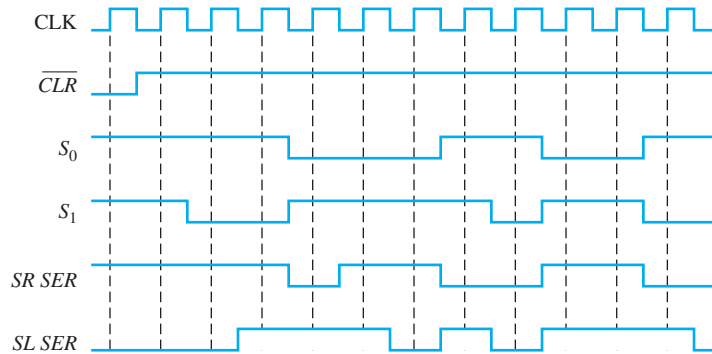

FIGURE 8-59
24. Determine the Q outputs of a 74HC194 with the inputs shown in Figure 8-59. Inputs D_0 , D_1 , D_2 , and D_3 are all HIGH.